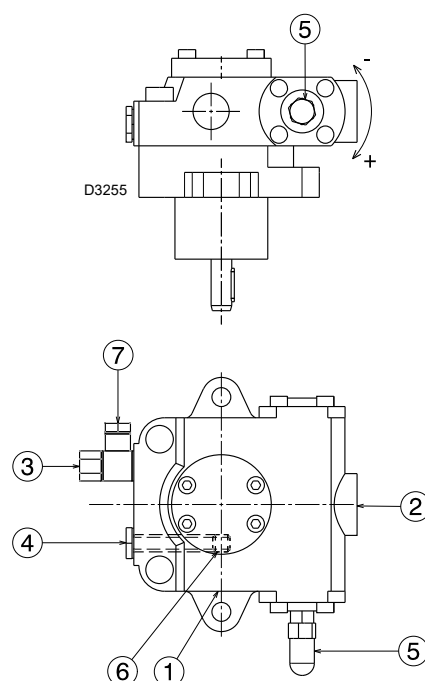

Fig. 20
- Fill the pump with the light oil from the vacuumometer plug 4)(Fig. 20), put the burner in operation, purge the air from the manometer plug 7) and wait for the pump priming.
Key (Fig. 20)